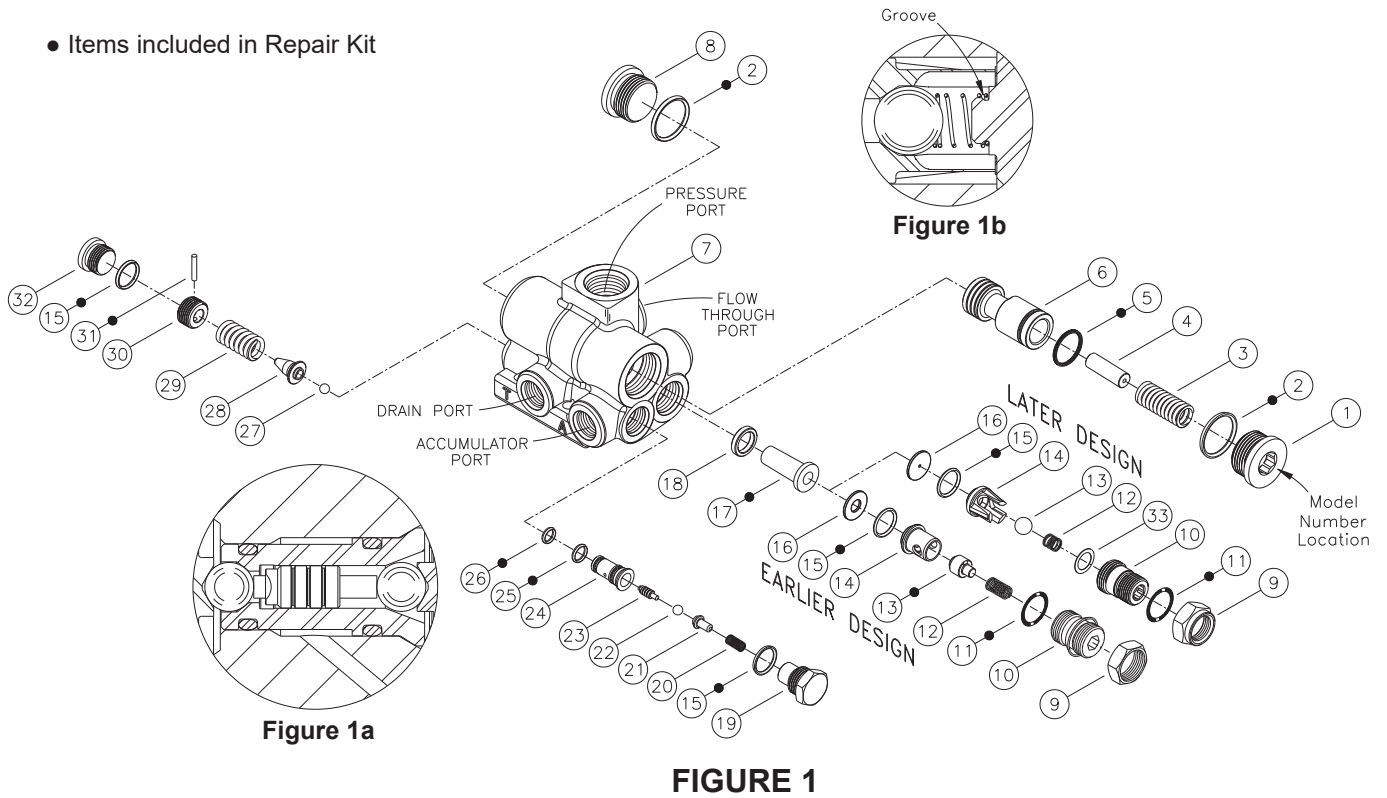

FIGURE 1
(Refer to Figure 1)
1. Install new o-ring (2) on plug (8). Install plug (8) into housing (7) and torque 122.0-135.6 N·m (90-100 lb-ft).
2. Install new quad ring (5) on spool (6). Be sure quad ring (5) does not twist in groove.
3. Lubricate spool (6) with clean system fluid and insert into housing (7) as shown in Figure 1.
4. Install spring (3) and rod (4) into housing (7).
5. Install new o-ring (2) on plug (1). Install plug (1) into housing (7) and torque 122.0-135.6 N·m (90-100 lb-ft).
6. Install new o-rings (25 & 26) on insert (24) and install insert (24) into housing (7). Note direction of assembly. Seat insert (24) with 12.7 mm (0.50 in) diameter wood or plastic dowel.